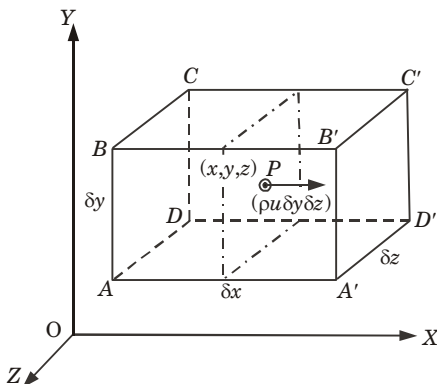

Fig. 2.6.1. Elementary rectangular parallelepiped.
- Consider an elementary rectangular parallelepiped with sides of length $\delta x, \delta y$ and δz as shown in Fig. 2.6.1.